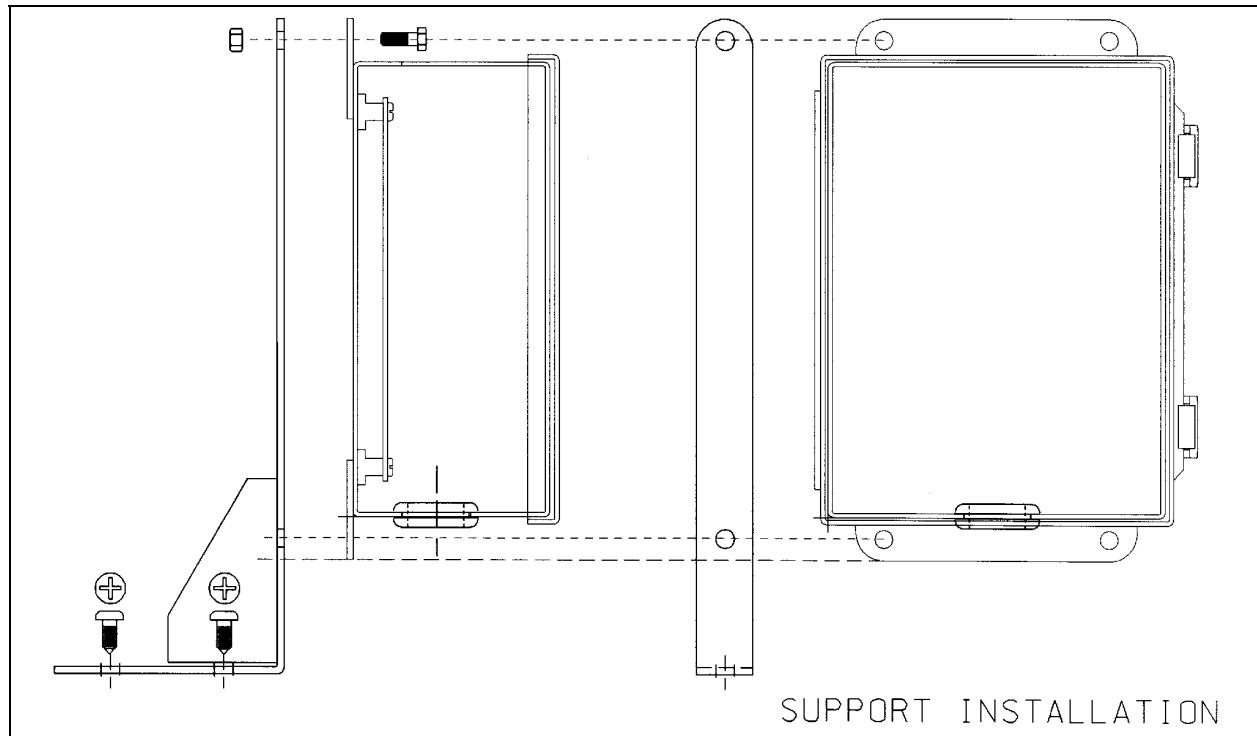

FIGURE 1
8. Fasten support onto box using bolts (500179) and nuts (502600) (refer to figure 1).